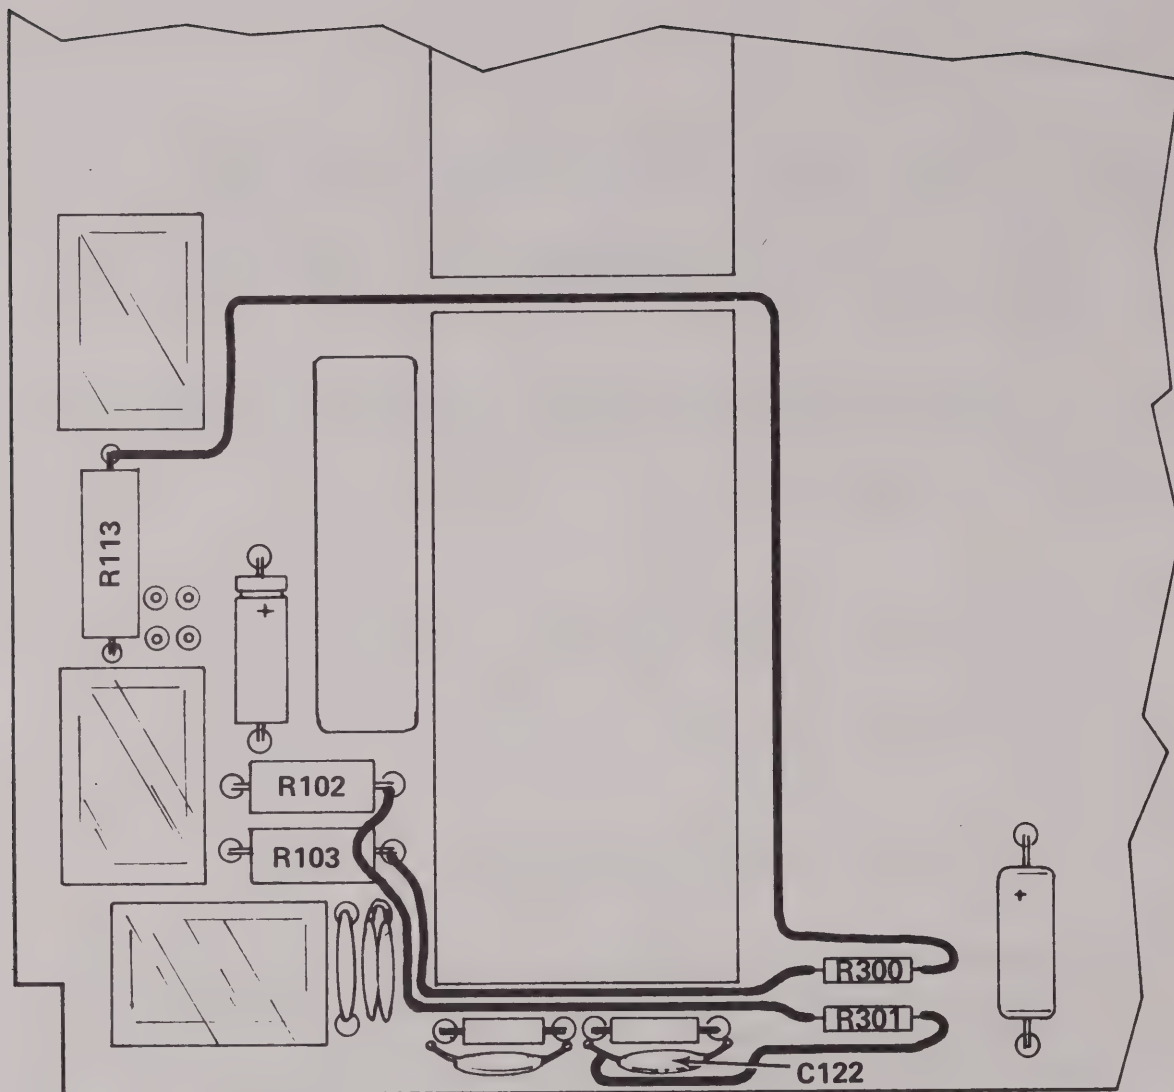

Figure 4A. Component Side of I/O Trunk Board TRN6469A
- (b) Connect the resistors as shown in Figure 4A. Note that all connections are made on the component side of the board. Route the resistor wires as shown, and epoxy the resistors to the board in the area shown, being careful not to make contact with other components. To make connections to resistors R102 and R103, it will be necessary to first unsolder these resistors, make the new connections, and then solder them back into the board.